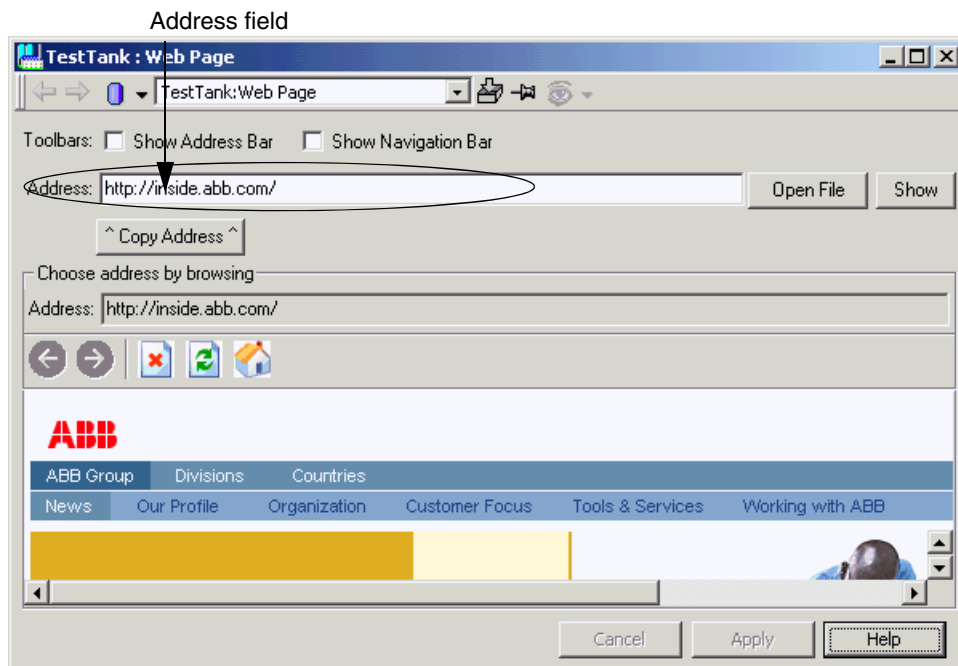

Figure 297. The Web Page Aspect in the Config View
2. Open the Config View of the Web Page aspect. See Figure 297.